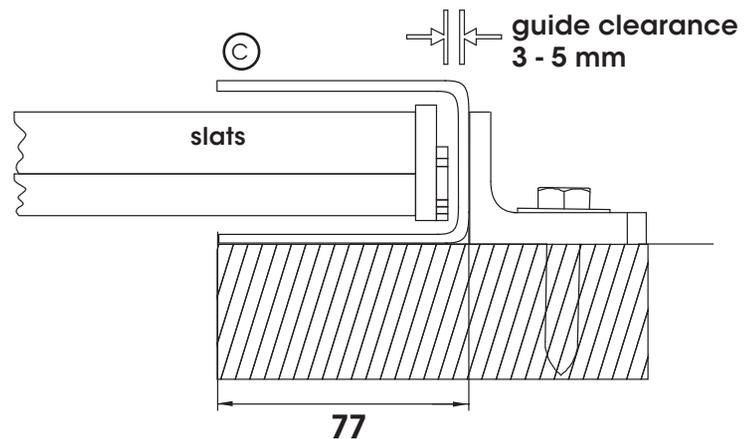
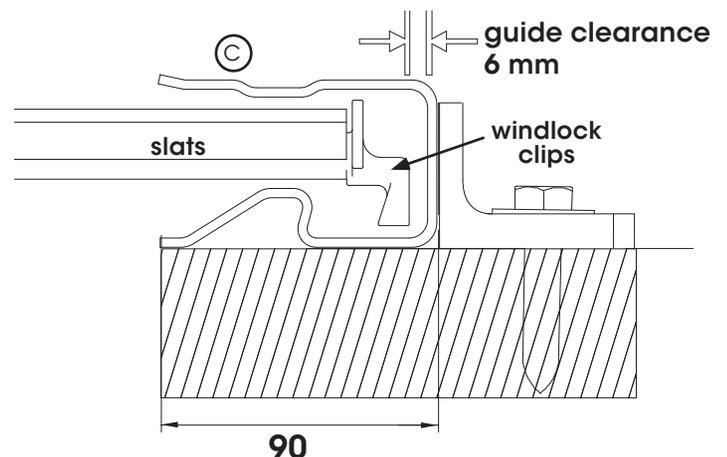

Fig: 2.5.1 (standard guide)
Fig: 2.5.2 (windlock guide)
- Position guides © true and plumb at each side of the opening. Allow 3-5 mm of working clearance between the shutter and the inside of each guide as per **Fig 2.5.1**. For Windlock setup refer to **Fig 2.5.2**.